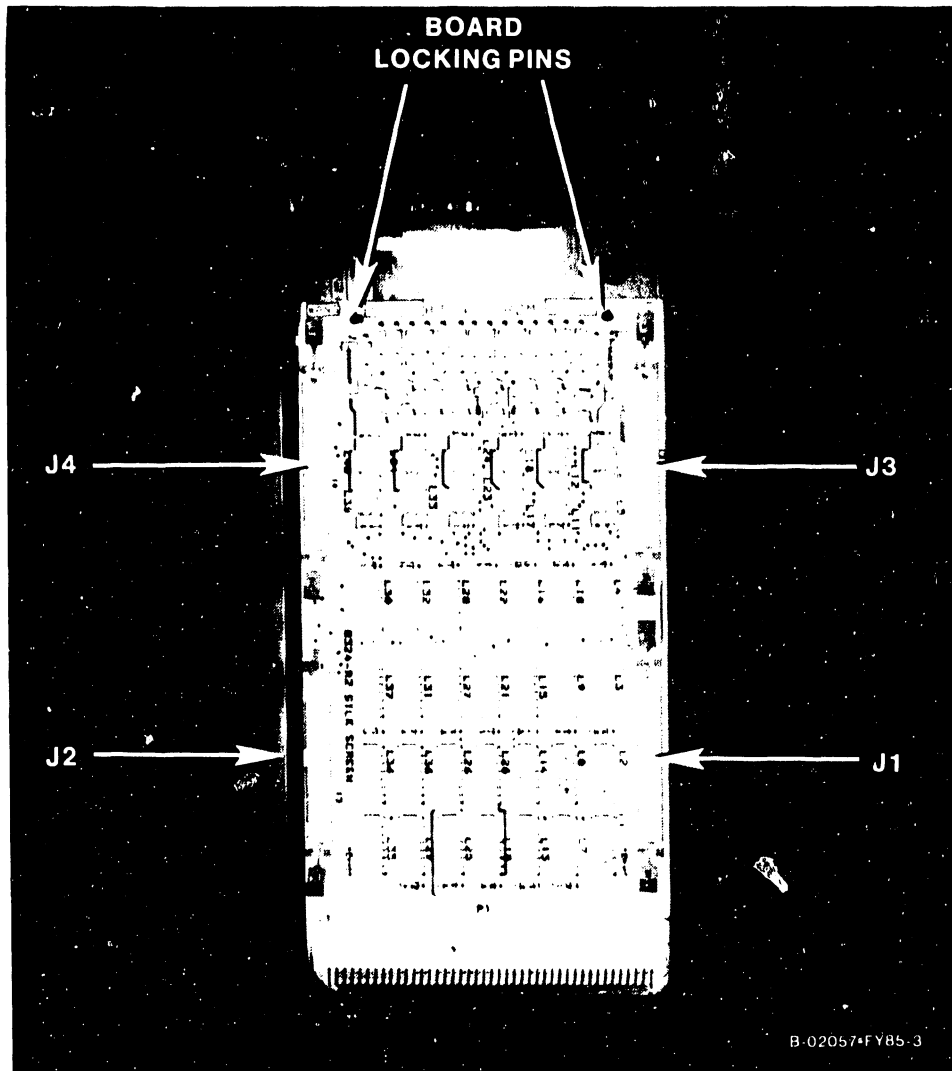

Figure E5-1 Line Driver/Receiver Daughter Board
5. To remove the board, squeeze the locking pins in the upper corners, (ref. Fig E5-1) and lift forward and straight up.